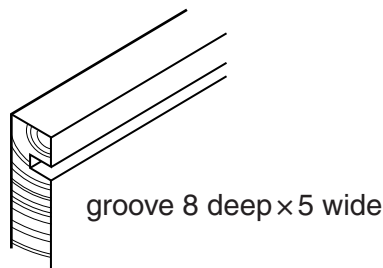

Fig. 12
- (c) Fig. 12 shows part of the groove that allows the acrylic top to be removed.